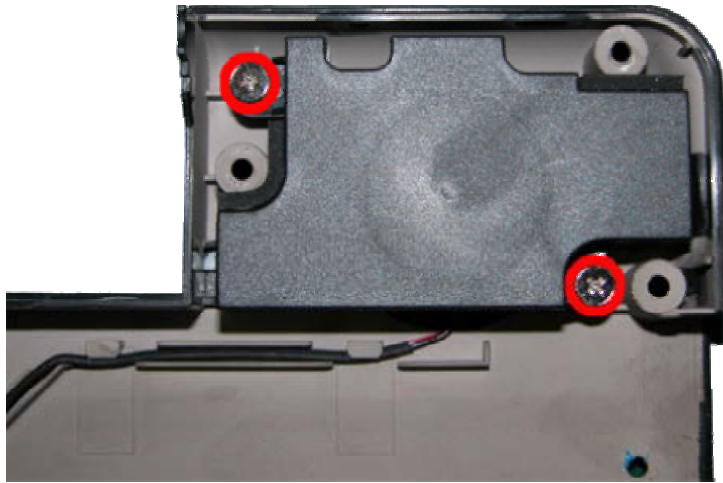

Fig. 37 Woofer
- Removing screws on Woofer as shown in Fig. 37